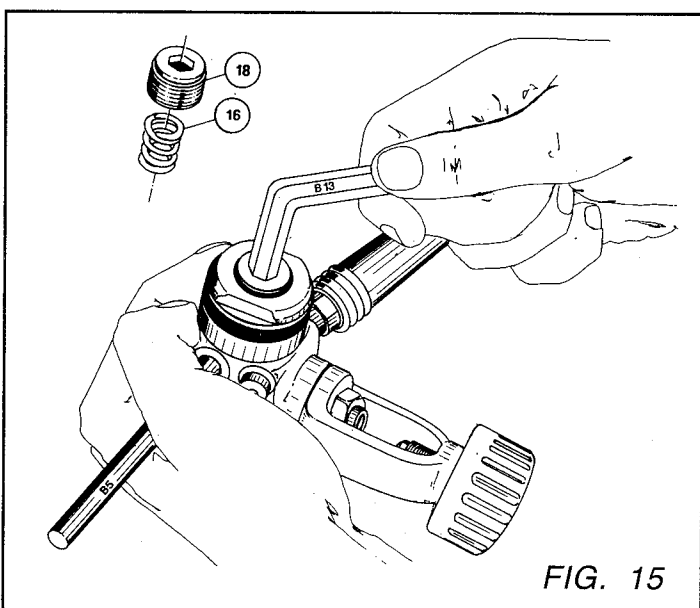

FIG. 15
9. Remove the poppet seat (75) from first stage.
10. Remove o-ring (74) from poppet seat.
11. Reinstall the first stage cover (81) and o-ring (71) into the first stage body using hex wrench (B3).
13. Remove regulating nut (18) with hex wrench (B13) and remove diaphragm spring (16) (Fig. 15).